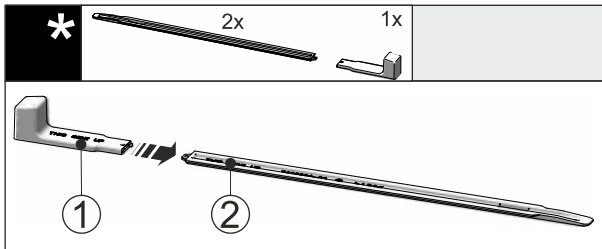

Fig. 52
- ▶ Attach the installation handle Fig. 52 (1) to the levelling rail Fig. 52 (2).